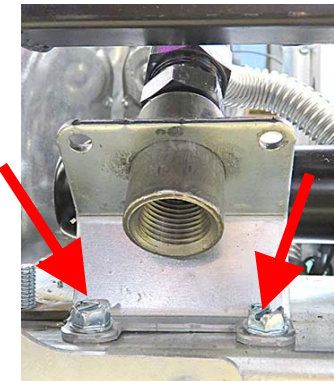

Figure 34
31. Align the fresh oil fill assembly to the pre-drilled holes and attach using 1/4"-20 bolts (see Figure 34).